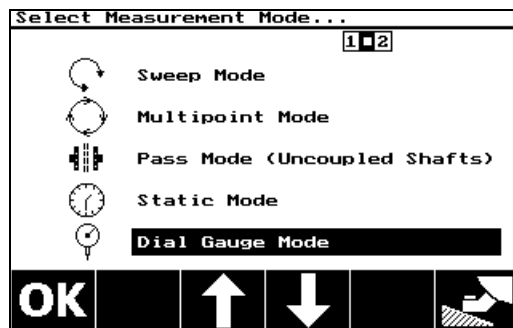

Figure 1
- 2) Using the  key, select Dial Gauge Mode and confirm with . See Fig 1.